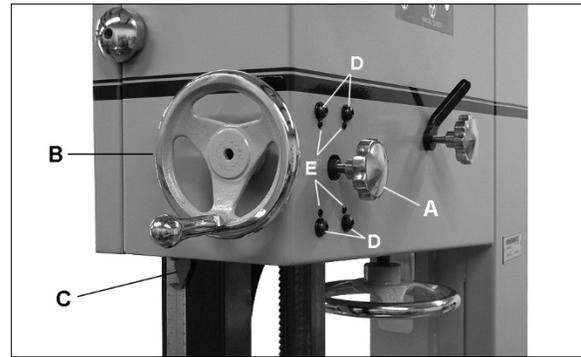

Figure 32: guide post adjustment
Refer to Figure 32.
4. Loosen lock handle (A, Figure 32) and raise guide post to a high position.
6. If guide post does not move straight up and down (blade begins deflecting when guide post is raised), slightly loosen four screws (D, Figure 32).
7. Left and right adjustment is accomplished using a combination of the four screws (D); forward/back adjustment is accomplished using the set screws (E).
8. When finished adjusting, securely tighten screws (D).